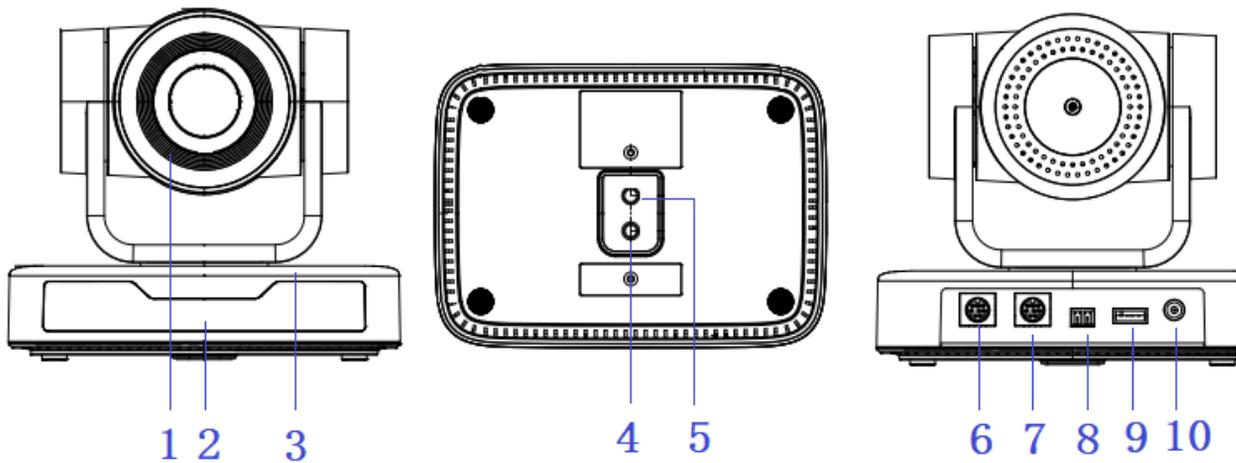

Figure 1.1 Product Interfaces
- a. USB 2.0 video cable connection: as shown in Figure1.1 label 9